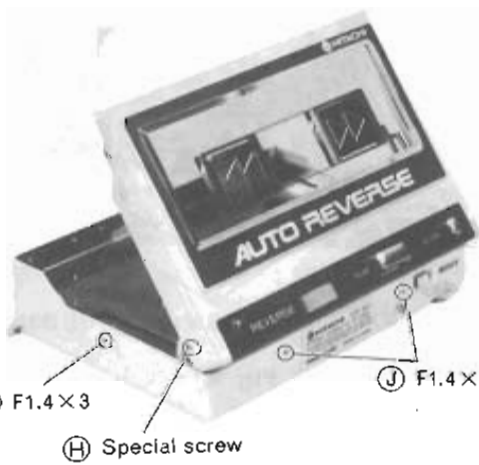

Fig. 7
1) Remove nine fixing screws (J) shown in Figs. 7, 8 and remove the volume control knob fixing special screw. Then remove the rear case by pulling up the reverse switch side.